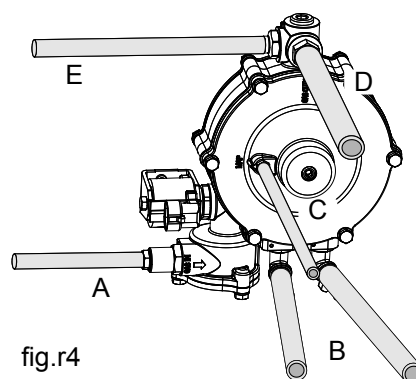

fig.r4
- the following components must be connected in series to the regulator gas outlet ("D" in fig. r4): the filter (optional), the pressure/temperature sensor and the gas metering unit. Care must be taken to ensure that there are no kinks or swollen sections kinks in the pipes/hoses;